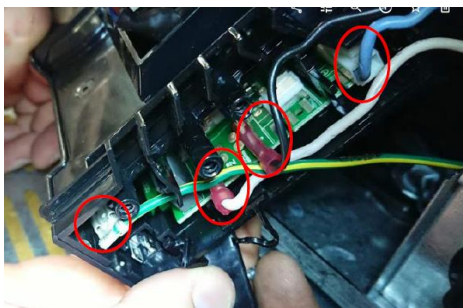

Figure 80a: Inverter connections shown.
- Connect the following wire back up so we can test/check See **Figure 80a and 80b:**